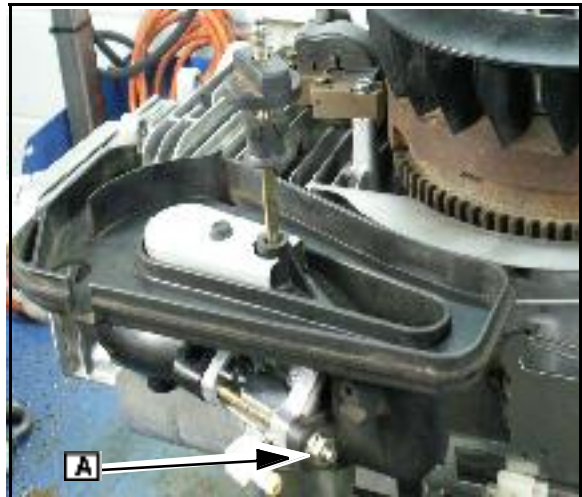

Fig. 53
8. Install air cleaner base to carburetor and torque mounting nuts ([A] Fig. 53) to listed values. **See SECTION 14- ENGINE SPECIFICATIONS.**